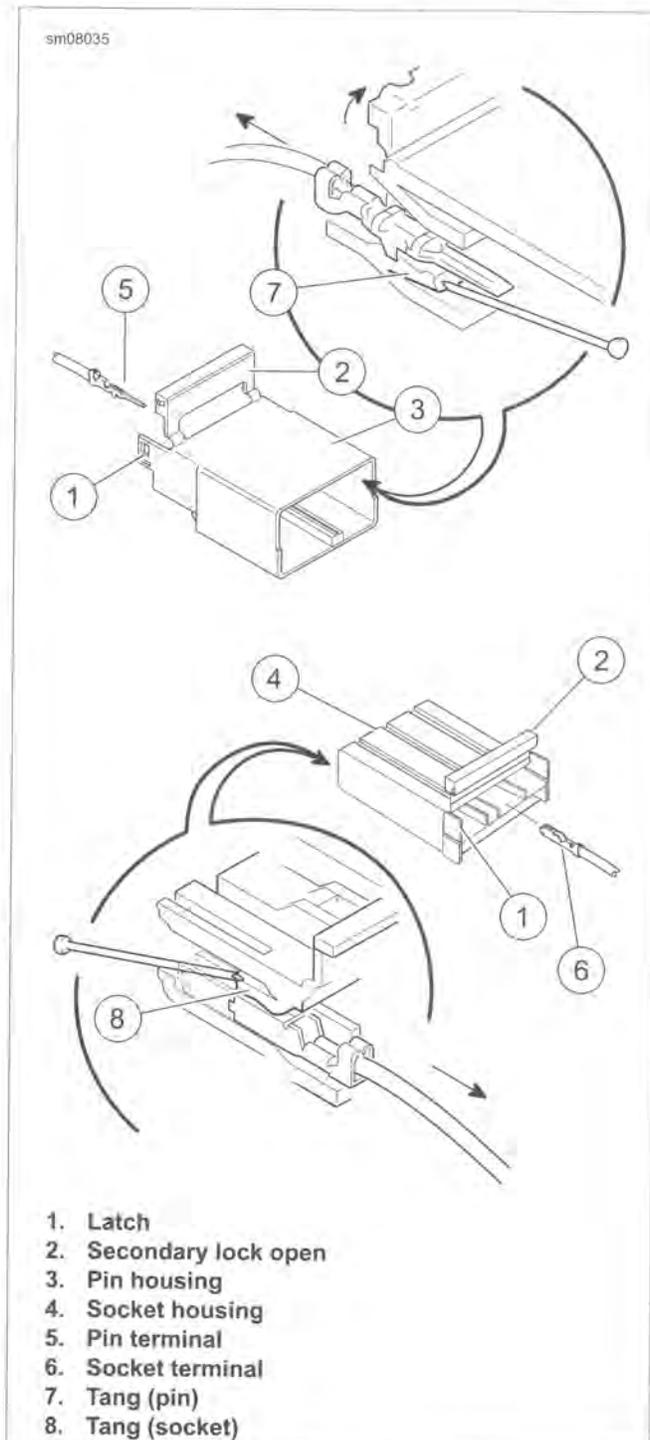

Figure A-60. Tyco 040 Multilock Unsealed Connector: Socket and Pin Housings
1. See Figure A-60. Bend back the latch (1) to free one end of secondary lock (2) then repeat on the opposite end. Hinge the secondary lock outward.
- a. **Socket:** Lift the socket tang (8) up.
- b. **Pin:** Press the pin tang (7) down.